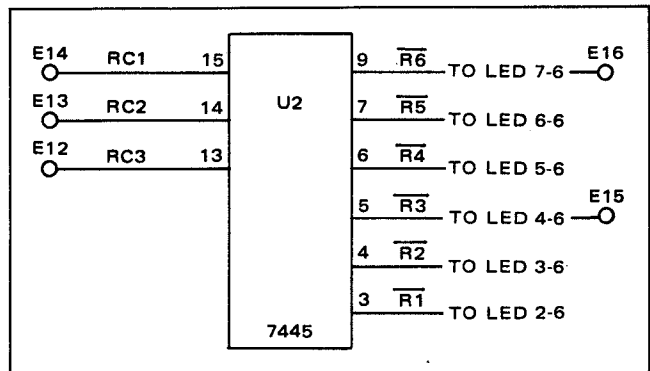

Figure 4.17 - BCD to Decimal Decoder
4.3.16.1 The BCD to Decimal converter shown in figure 4.17 uses the range information from the range circuits to control the position of the decimal point on the display. This device is simply a 3-line to 7-line converter. The range code input determines which decimal point is lit.